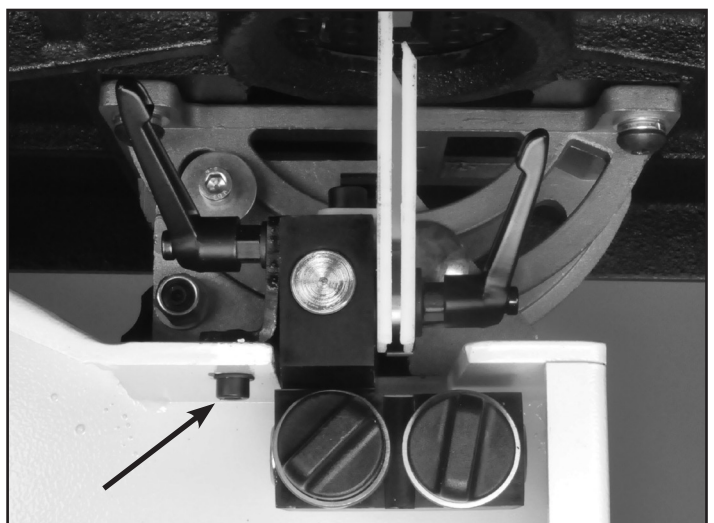

FIGURE 5
7. Position the Guide Assembly onto the lower frame with the small alignment pin that is on the bottom of the connecting plate, set into the pre-bored hole in the frame. Figure 5.
8. Once the lower Guide Assembly is positioned on the frame, insert the Cap Screw, removed in step 6, up through the hole in the saw frame and back into its threaded hole in the connecting plate. Do not fully tighten the screw at this time. Figure 5.